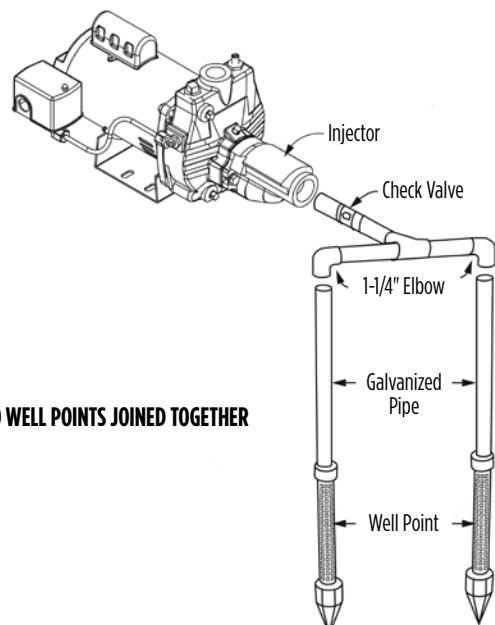

Fig. 8 - TWO WELL POINTS JOINED TOGETHER
4. Drive the well point into the ground according to the instructions that come with the well point. It must be deep enough to bore through the water bearing formation below the water table but should not exceed 25 ft (7.6 m) in depth. An individual well point may not supply the amount of water needed. Sometimes it is necessary to use more than one well point to increase the water supply. The two separate well points can be jointed together using additional piping and a cross joint. (See Fig. 8)